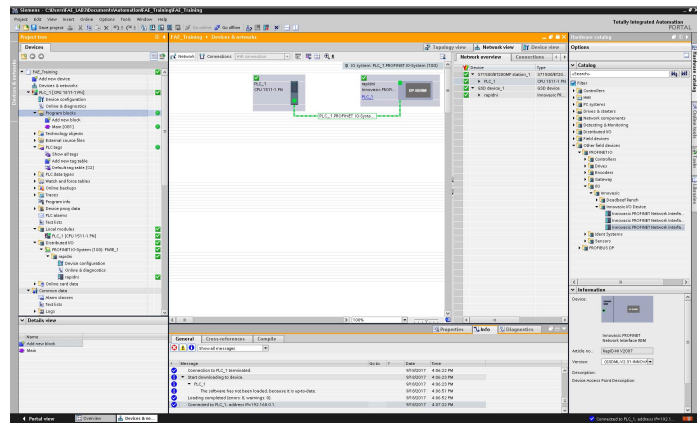

Figure 89. Main Test Project Window
6. Click the orange **Go online** button at the top of the window to go online with the PROFINET network (see Figure 89). Taking this step causes the outline of the screen to turn orange and green checkmarks to appear on all devices, which indicates that the system is actively communicating (see Figure 89). Communication between the PC of the user and the Siemens PLC is now good.
7. Click the blue **Go offline** button (see Figure 89) to complete this process.